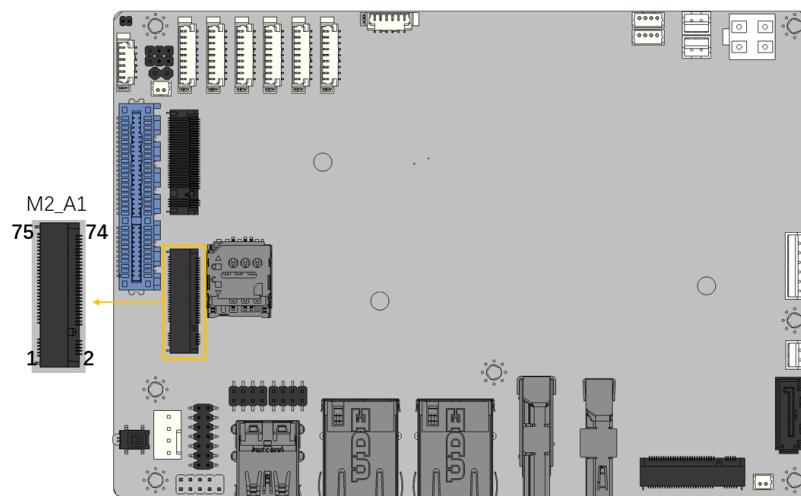

Figure 3-25: M.2 A-key Slot Location
- CN Location:** See **Figure 3-25**